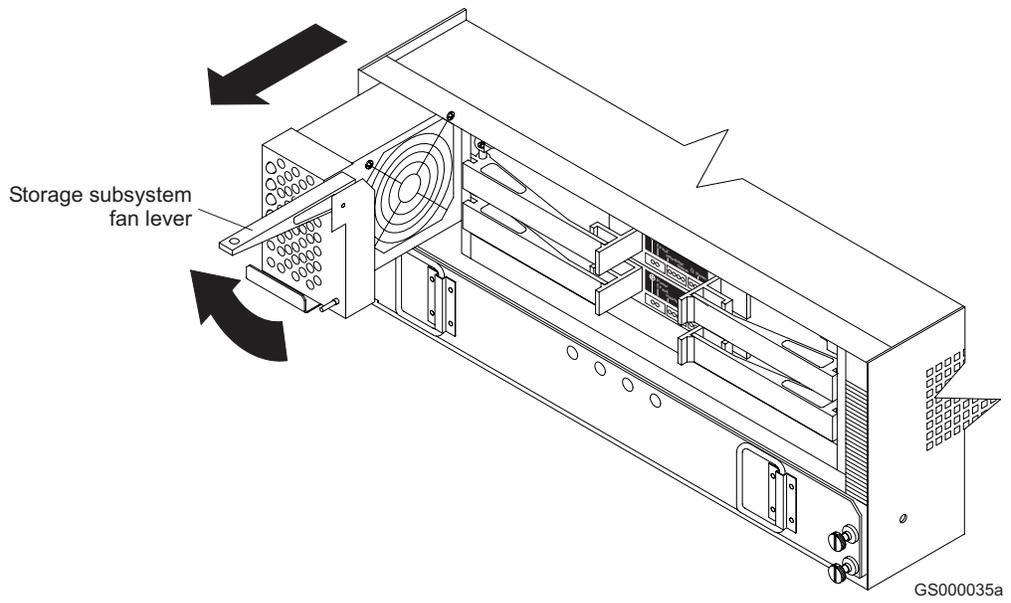

Figure 14. Storage subsystem fan removal
2. Slowly pull the lever away from the chassis to remove the storage subsystem fan from the bay, as shown in Figure 14 on page 34.